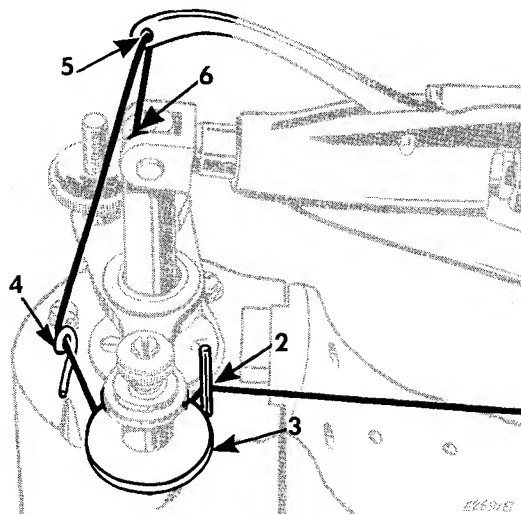

Fig. 20. Upper Threading
3. Draw the thread around back of pin 2 which is near the tension discs on top of the arm and from back to front and right to left between the tension discs 3. See Fig. 20.